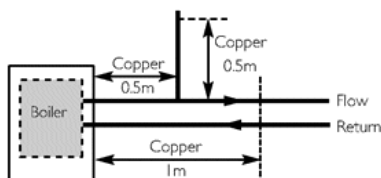

Fig. 4
3. In systems using non-metallic pipework it is necessary to use copper pipe for the boiler Flow and Return. The copper must extend at least 1 metre from the boiler and include any branches (Fig. 4).